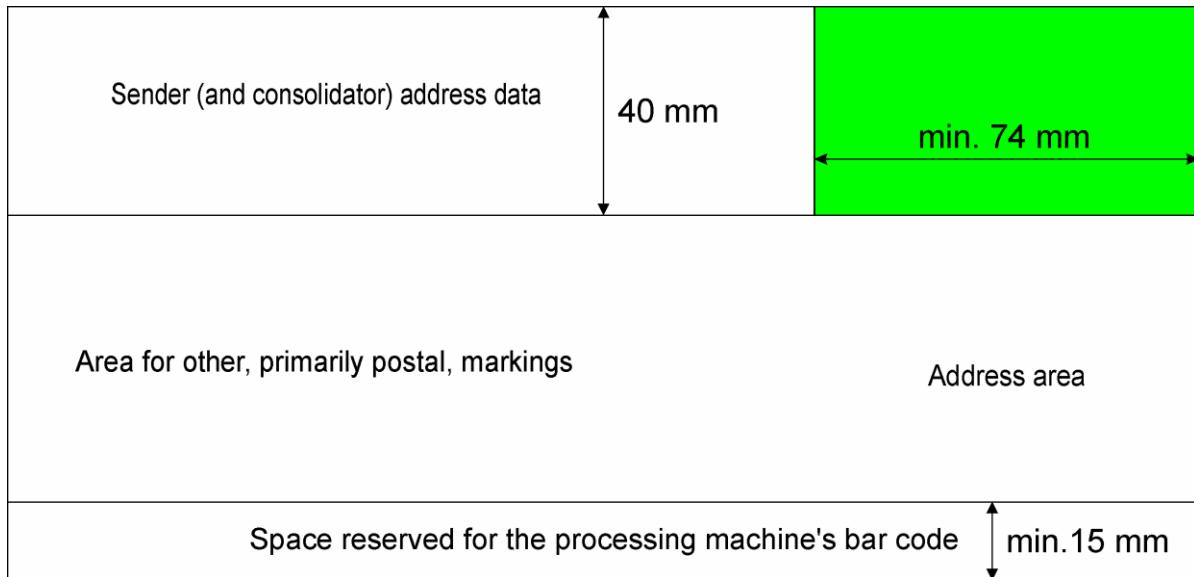

Figure 17: Indicia area of ordinary and medium-sized items
- c) Area for other, primarily postal, markings (*marked green in Figure 17*).